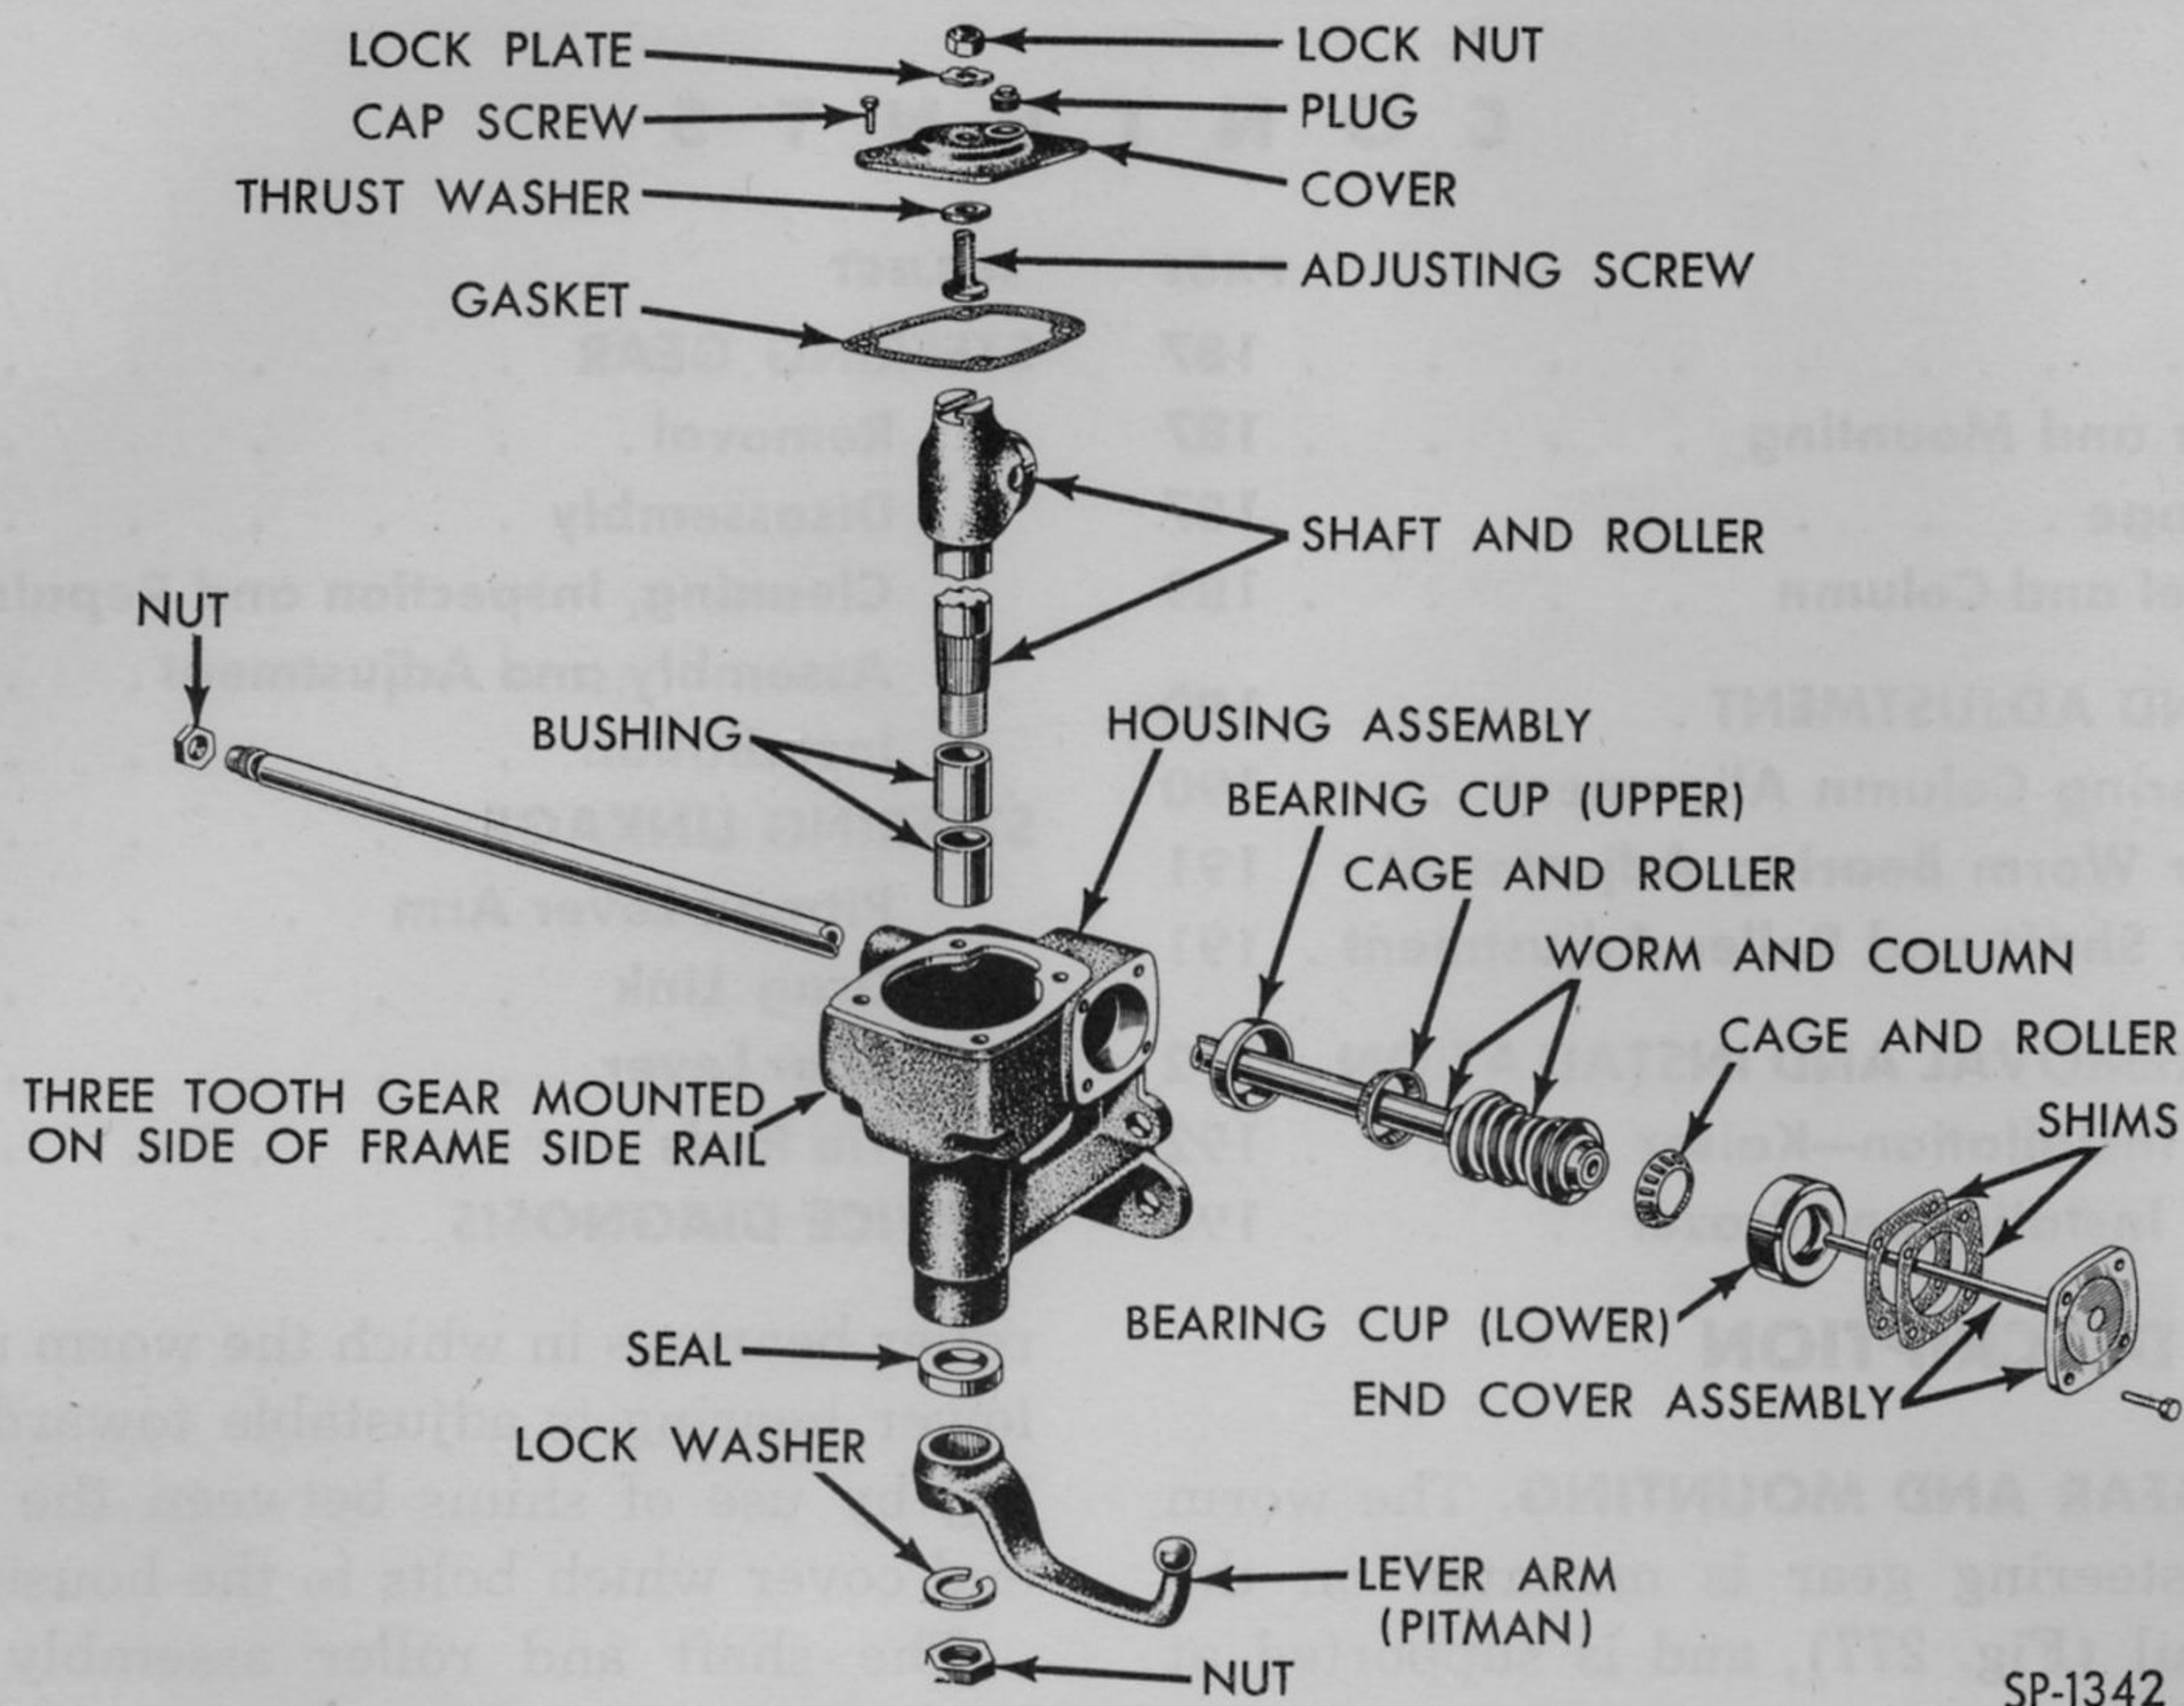

Fig. 278—Steering Gear Assembly—Exploded View
Inside the steering gear housing (Fig. 278) is the worm which is pressed onto the steering column or shaft. Machined surfaces at the ends of the worm form the inner races or cones for the two opposed
4. If the pull is not as specified, worm bearings need adjustment. Remove the four bolts and the end cover, draining the lubricant from the housing, and add or remove shims (Fig. 278) from between the cover and housing as necessary to adjust. Add shims to decrease the pull and remove shims to increase the pull. Shims are available in .002, .005 and .010 of an inch thicknesses.
3. Tighten the shaft and roller cover bolts at the steering gear housing (Fig. 278). Remove the nut which covers the end of the adjusting screw. Remove the lock plate from the adjusting screw.